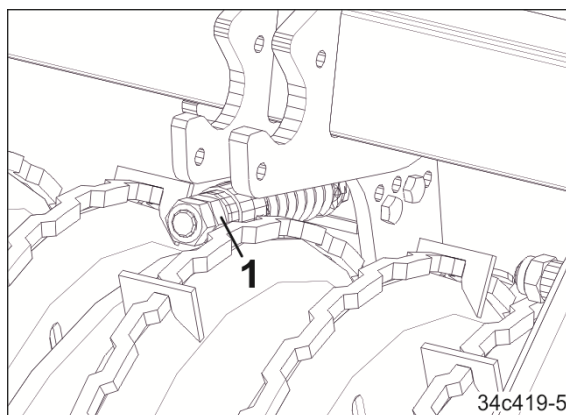

Fig. 97
2. Turn the hexagon nut (Fig. 97/1) on the spring package until the ends of the blades are flush again with the edges of the roller. Lock the hexagon nut.